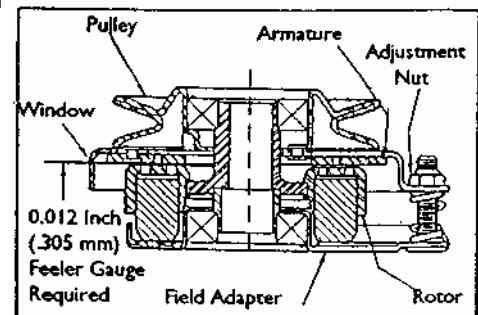

figure 3
5. Insert a .012 inch feeler gauge into one of the three windows. Be careful to position the feeler gauge between the rotor and armature faces, (figure 3)